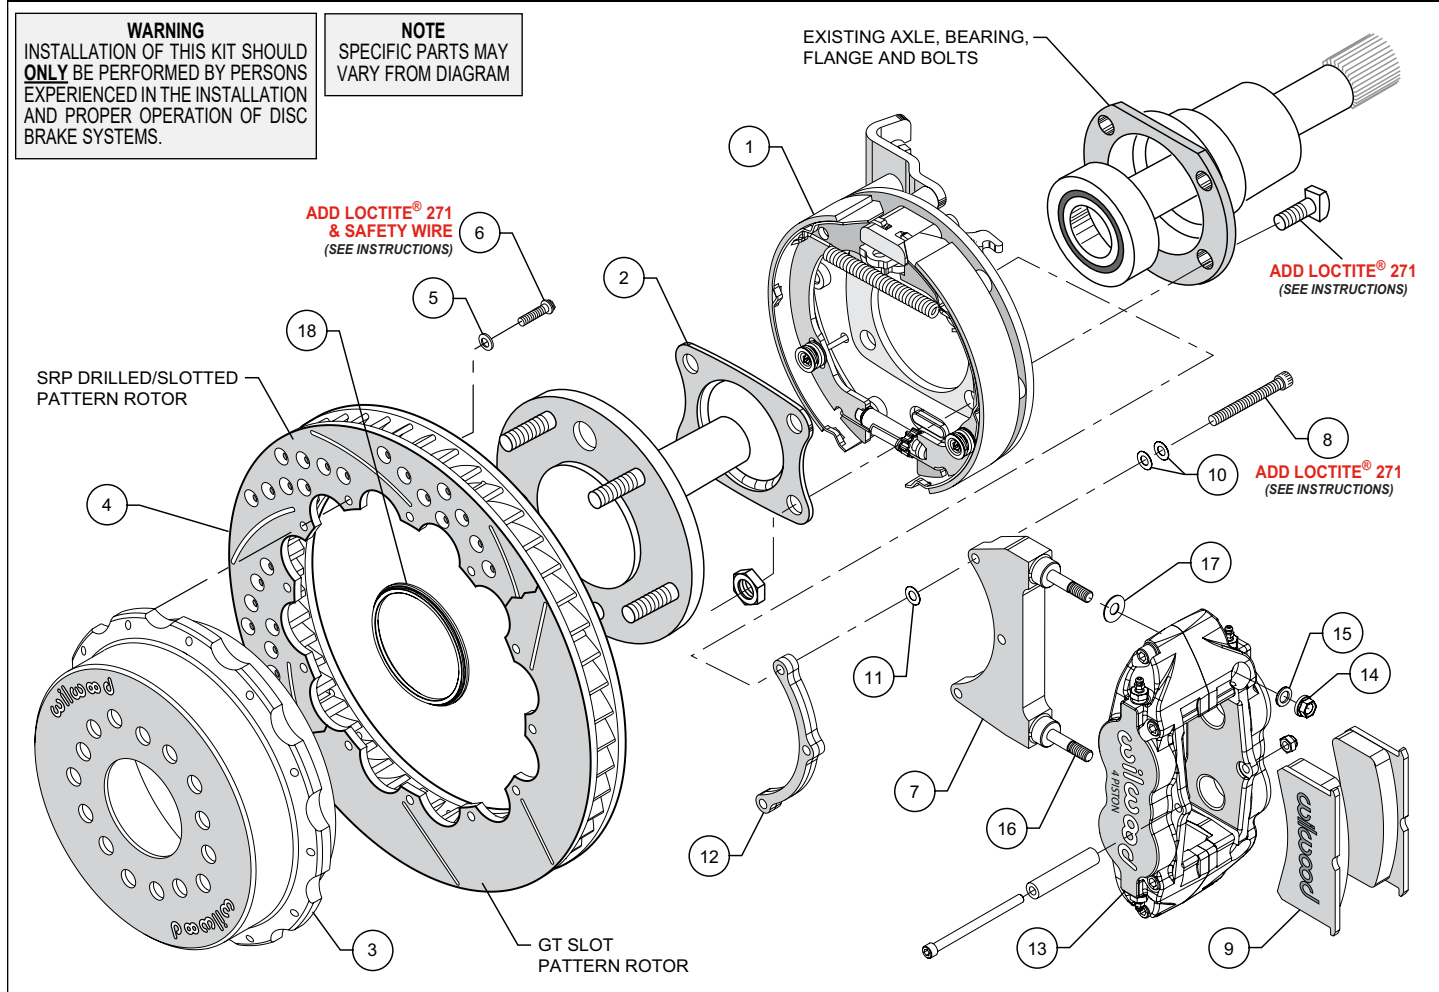

Figure 1. Typical Installation Configuration
- **NOTE:** Please reference the caution statement at the beginning of the assembly instructions. The caliper mounting bracket assembly (7) should be installed first with clean, dry threads on the mounting bolts (8). Install the bracket from the rear side of the bracket kit assembly (1) by sliding bolt (8) through two flat washers (10) bracket (7), shim washer (11) and finally through the spacer (12), see Figure 1. **NOTE:** End of bolt should not exceed inside face of insert. The bracket must tighten squarely against the back side of the bracket kit assembly (1). Inspect for interference from casting irregularities, machining ridges, burrs, etc. Use one thin shim (11) between the bracket (7) and spacer (12) during initial trial fitting.
- Install one washer (17) over each pre-installed stud (16) on the radial mount bracket (7). Slide the caliper (13) in place over the studs and rotor, then install the washer (15) and lock nut (14) to hold the caliper in place. Snug the lock nuts (14) and check that the rotor (4) is centered in the caliper (13). Add or subtract .015" shims (11) as necessary between the caliper mounting bracket (7) and the spacer (12) to center the caliper (9).
- Remove the caliper center bridge pad retainer bolt, nut, and tube from the caliper. Slide the brake pads (9) into place. They should install easily without interference. Check that the outside radius of the brake pad is aligned with the outside diameter radius of the rotor face. Add or subtract shims (17) between the caliper (13) and mount bracket (7) to gain the proper alignment. Reinstall the center bridge pad retainer tube, bolt, and locknut. The locknut should be snug without play in the bolt or tube. Be cautious not to over tighten.
- Adjust the parking brake shoes outward (using a drum shoe adjustment tool available at your local auto parts store) while spinning the hat (3) until a slight drag is felt against the hat/drum. Remove the lug nuts that were holding the hat/rotor in place. Install the wheel and lug nuts. Check to see that the wheel rotates freely without interference.
- Once all clearances have been checked, remove the wheel, caliper, hat/rotor from the bracket kit assembly (1). Secure the caliper mounting bracket (7) to the bracket kit assembly (1) using red *Loctite*® 271. Torque bolts (8) to 180 in-lb. Reinstall the hat/rotor assembly and again use lug nuts to hold it in place. Reinstall the caliper and torque the caliper nuts (14) to 30 ft-lb.
- **NOTE:** Clevis and cable kits which attach to the parking brake assembly are not included in the Wilwood parking brake kit. Wilwood offers a generic style parking brake cable kit, P/N 330-9371 for this application which can be ordered separately from your local Wilwood dealer or by calling Wilwood customer service at (805) 388-1188.